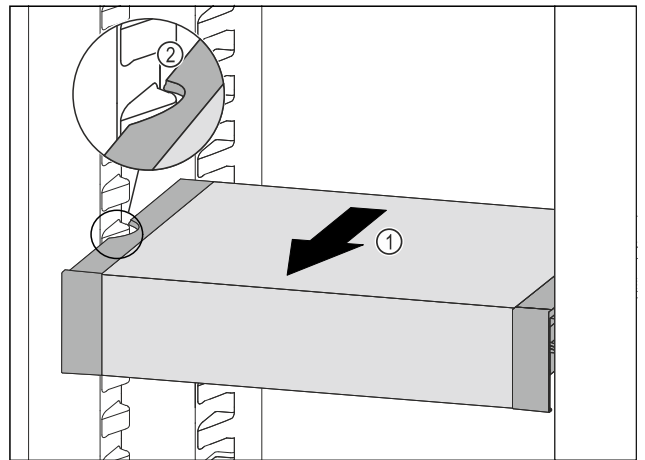

Fig. 60
- Pull VarioSafe forwards Fig. 60 (1) until the recesses in the side of the VarioSafe are at the level of the support rib in the refrigerator compartment. Fig. 60 (2)